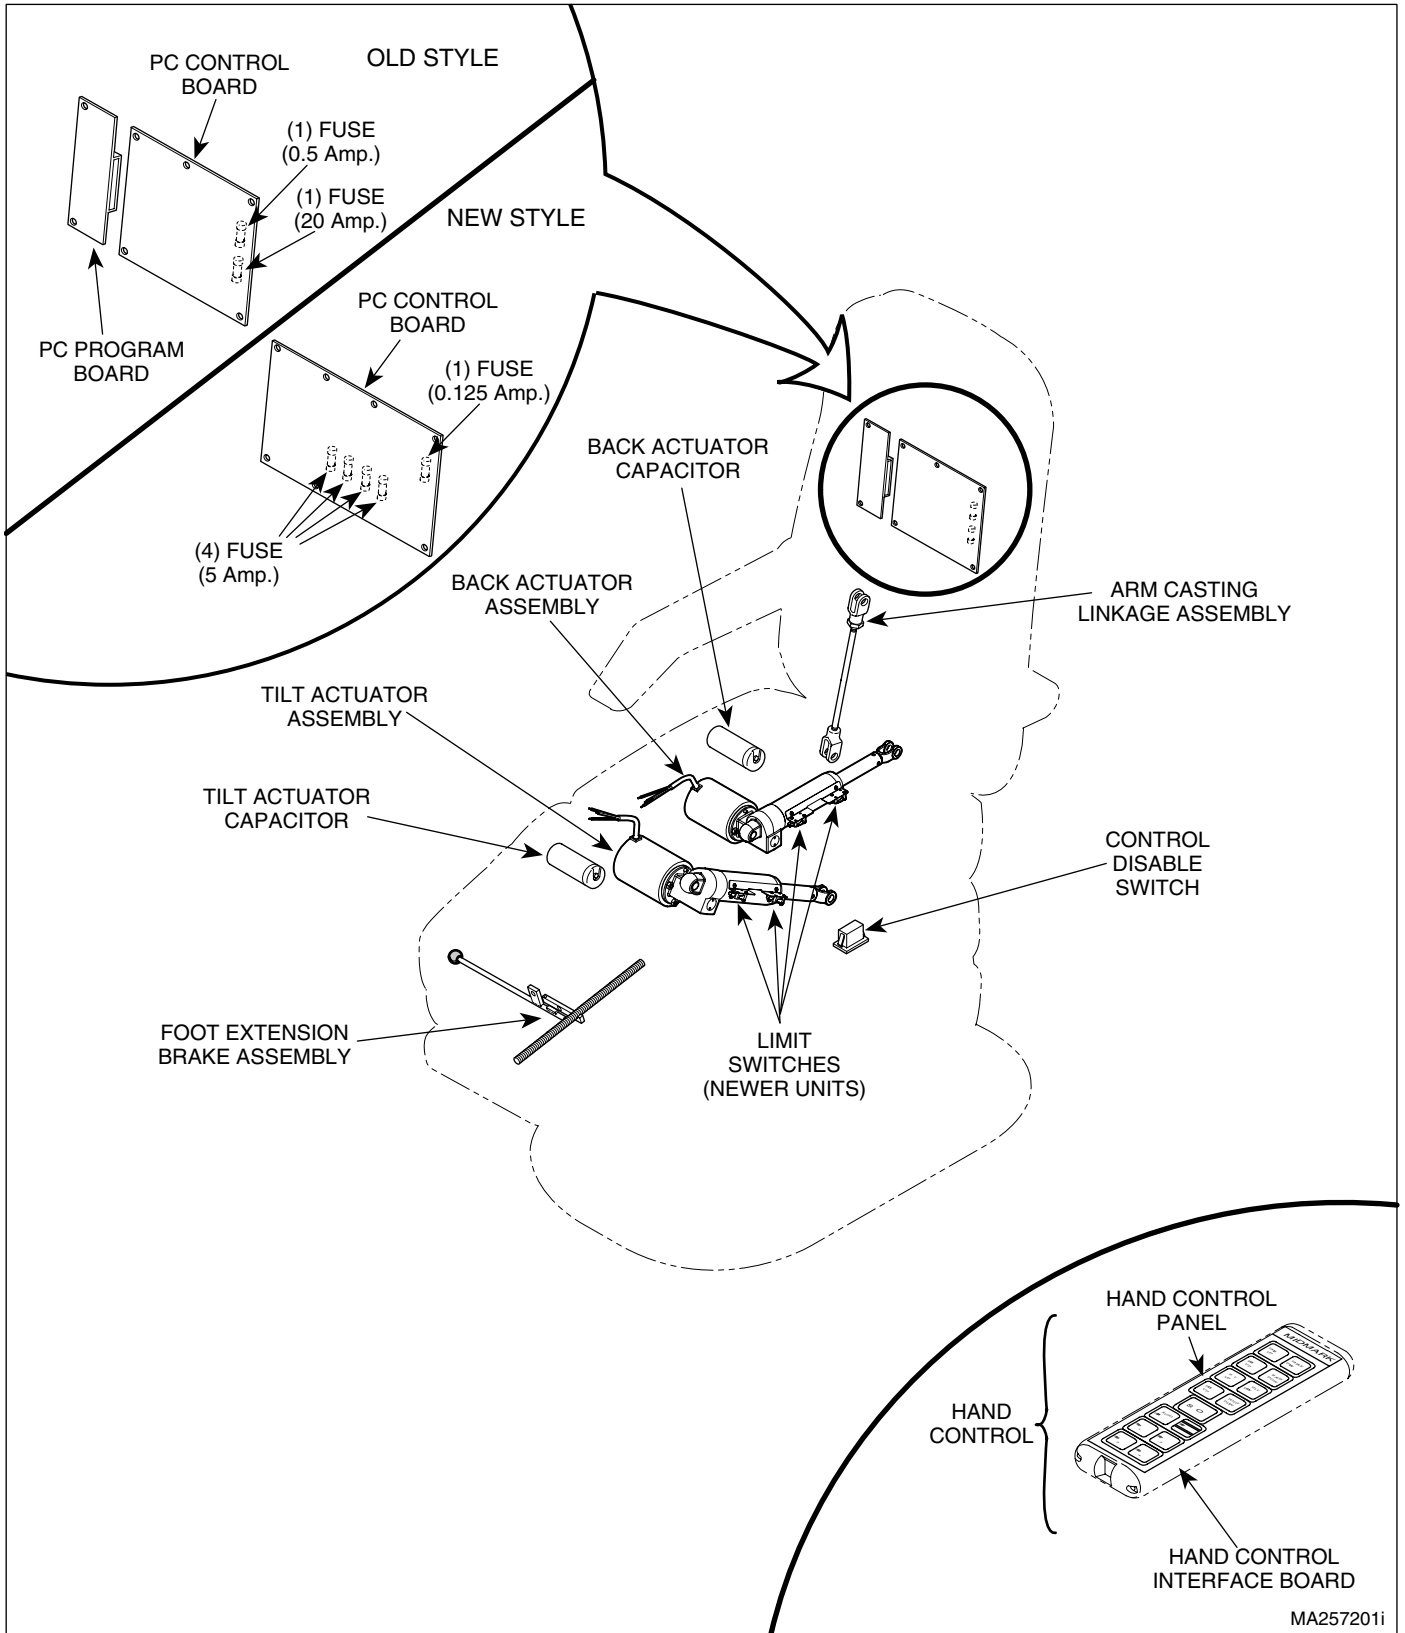

Figure 1-1. Major Components
B. Major Serviceable Components (See Figure 1-1). The major serviceable components of the chair are the arm casting linkage assembly, back actuator capacitor, back actuator assembly, tilt actuator capacitor, tilt actuator assembly, foot extension brake assembly, PC control board, PC program board (a new style PC control board is now being used which combines the PC control board and PC program board together into one board), 0.5 amp fuse & 20 amp fuse for old style PC control board or 0.125 amp & 5 amp fuse for new style PC control board, control disable switch, hand control which includes hand control panel and hand control interface board.